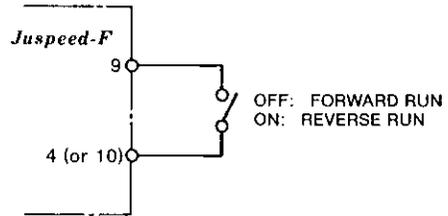

Fig. 9 Connections of Forward/Reverse Switch
Terminals for motor forward/reverse operation switch. See Fig. 9. Motor runs forward by turning off terminals ⑨ and ④ and reverses by turning on. Use a toggle switch (30 VAC, 3A, contact resistance: 0.010Ω or less) or equivalent.